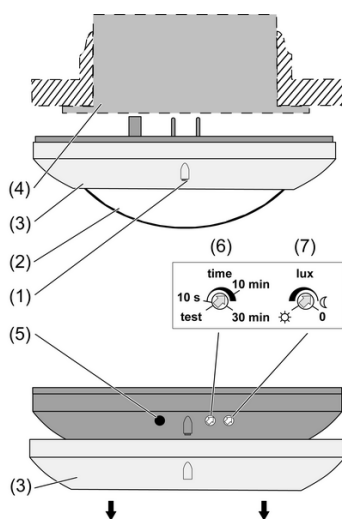

Figure 1: Device components
- Pull off decor ring (3).
- Set **lux** adjuster to ☀ (Figure 1).